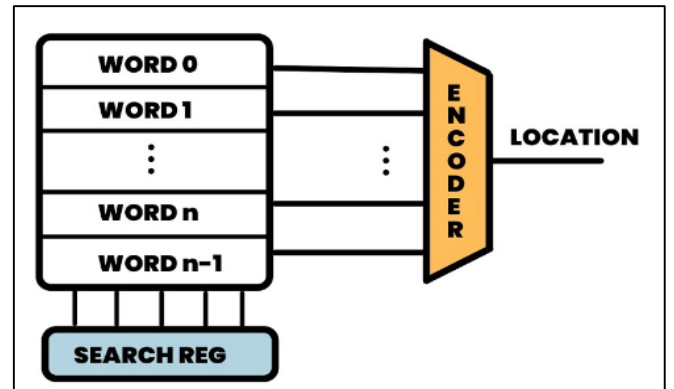

Figure 1 Conceptual view of a CAM^[3].
Content Addressable Memory (CAM), also referred Associative Memory, that performs similar operations of RAM that include the read and write on a given address^[21], but it has additional searching functionalities; it takes the data as input, searches in its memory about that data by using a parallel comparison between the input word data and the whole memory, and returns the list of addresses where the data word was located^[8]. As shown in the following figure (Figure 1), the data word(search word) is the input, and the search line for the parallel comparison; if the data stored in the memory cell matches the incoming data, the match line will be activated. The encoder outputs an encoded version of the match location using $\log_2 w$ bits^[6]. As a functionality comparison between both RAM, and CAM; the CAM is an inverse operation of RAM in reading operation as shown in (Figure 2).
- [11] *Fig. 1. Difference between Cam and RAM Operations.*
https://www.researchgate.net/figure/Difference-between-CAM-and-RAM-operations_fig1_341571464.
- [12] *Fig. 1. Difference between Cam and RAM Operations.*